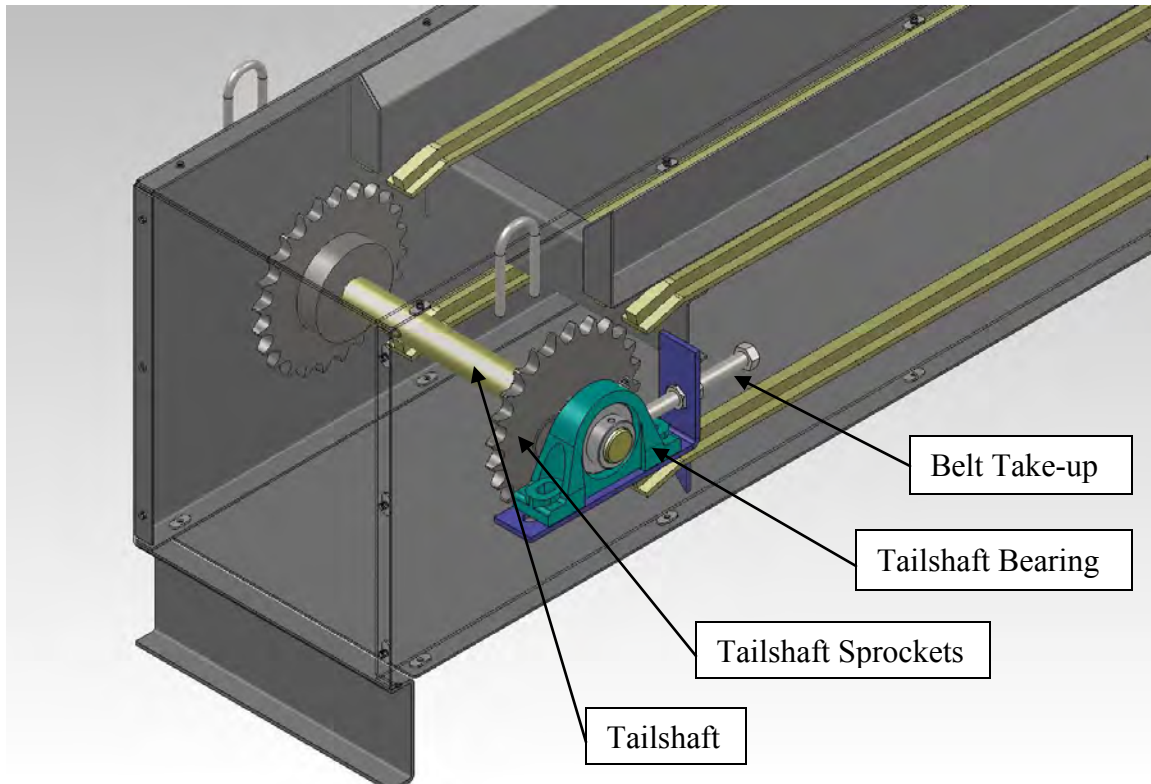

Figure 2 – Tail End and Take up
- The tail end consists of a tailshaft supported by two pillow block bearings. The pillow block bearings are mounted to angle brackets which have slots for taking up the slack of the conveyor chain with adjustment bolts. The conveyor sprockets are mounted on a shaft where one is keyed and set screwed while the other is free floating. This keeps the tailshaft arrangement from binding due to any conveyor chain irregularities. (Figure 2)